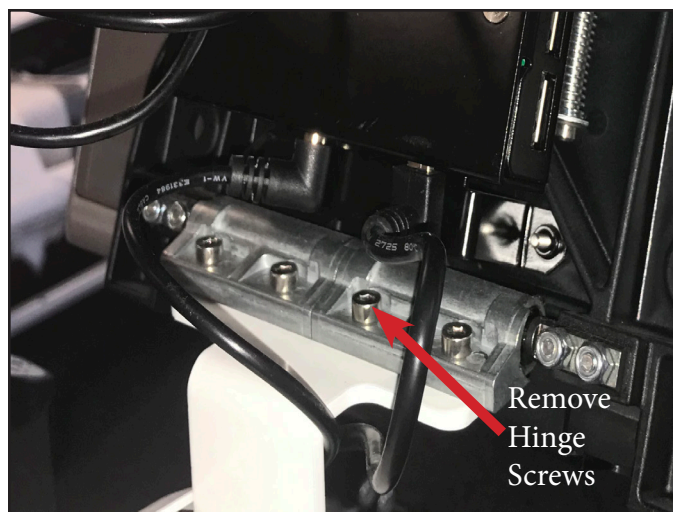

Figure 16
5. Remove the four screws from the mounting bracket hinge with a 3mm hex tool. (*Figure 16*)